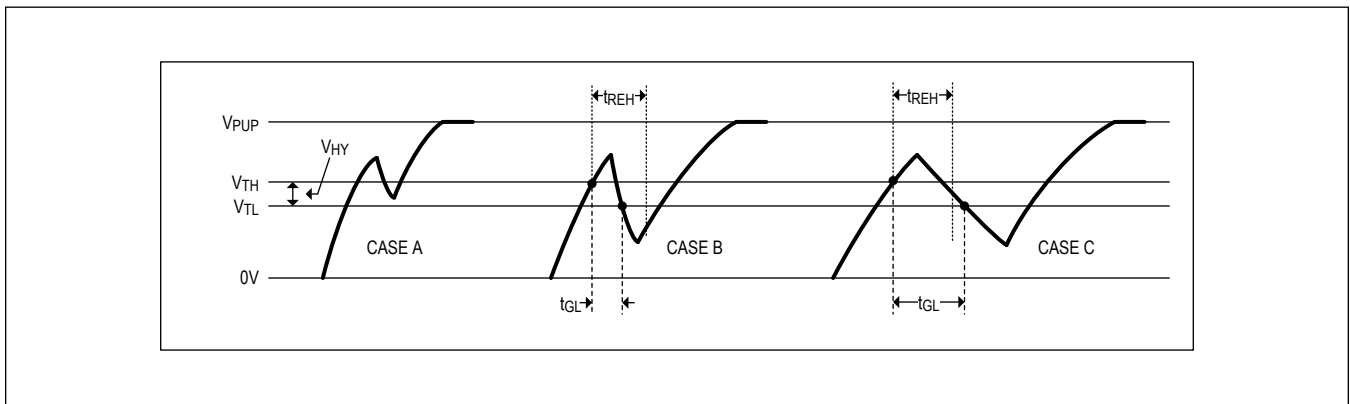

Figure 7. Noise Suppression Scheme
- On the low-to-high transition, if the line rises above V_{TH} but does not go below V_{TL} , the glitch is filtered (Figure 7, case A.)
- The rising edge hold-off delay (nominally 100ns), t_{REH} , filters glitches that go below V_{TL} before t_{REH} has expired (Figure 7, case B.) Effectively the device does not see the initial rise, and the t_{REH} delay resets when the line goes below V_{TL} .
- If the line goes below V_{TL} after t_{REH} has expired the glitch is not filtered and is taken as the beginning of a new time slot (Figure 7, case C.)